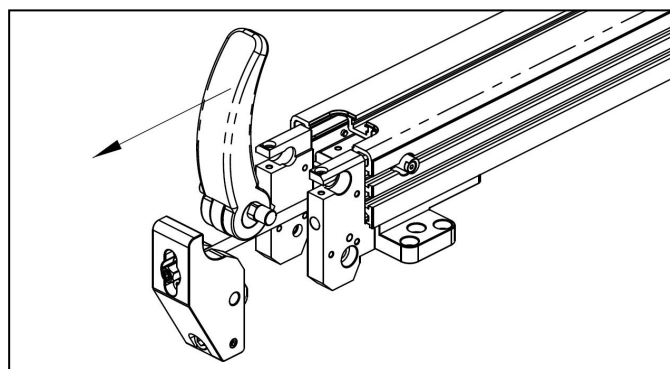

Fig. 9-8
- (8) Extract the handle assembly, as demonstrated in **Fig. 9-8**.